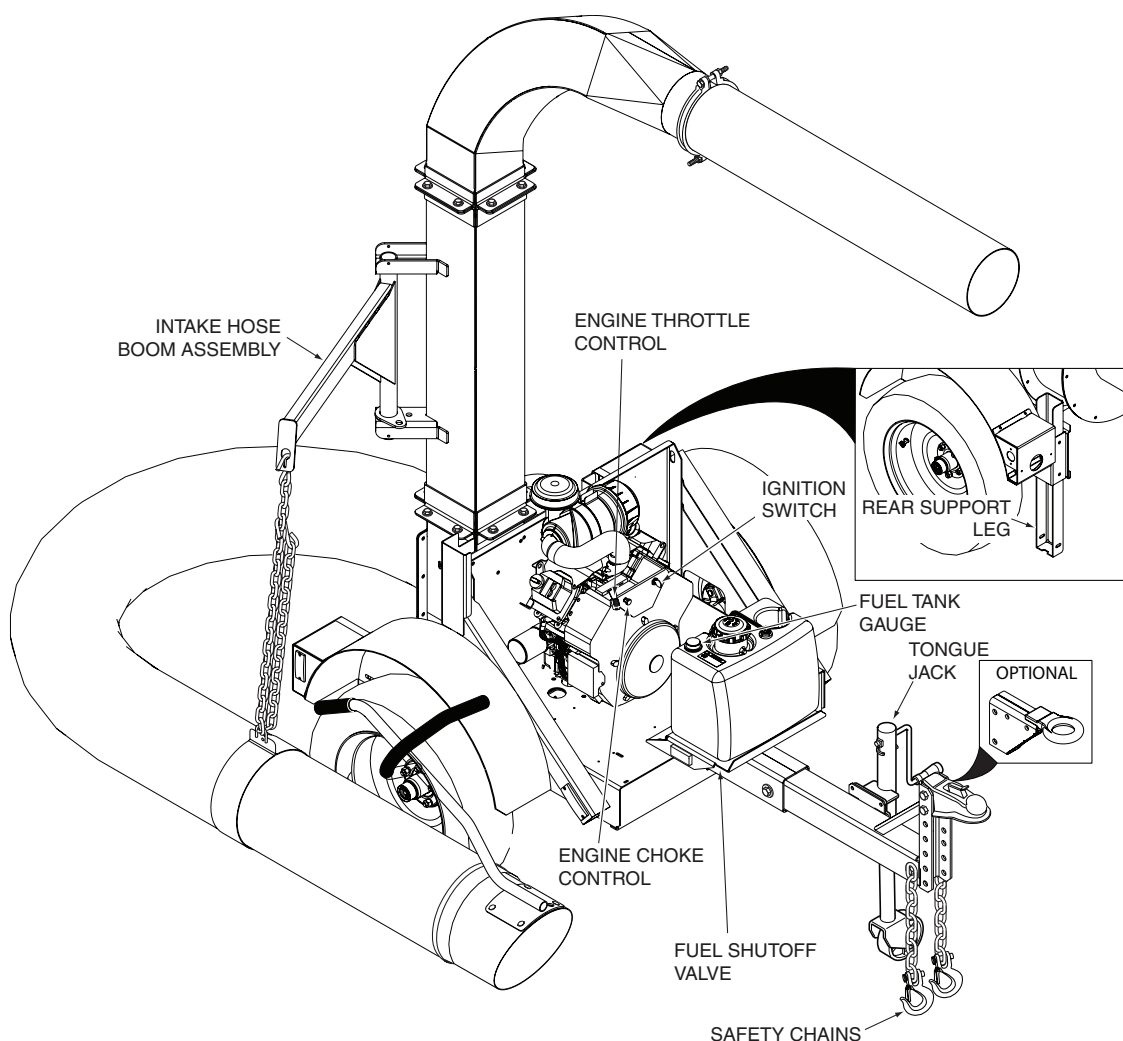

Figure 4-1. Controls and Instruments
1. **Ignition Switch (Figure 4-1).** The ignition switch is used to start the engine and has three positions; OFF, ON, and START.
2. **Engine Throttle Control (Figure 4-1).** Used to control the engine speed. Pushing the lever inboard increases engine speed. Pulling the lever outboard decreases engine speed. Full outboard position is the IDLE position. Full inboard is the operating position.
3. **Engine Choke Control (Figure 4-1).** Used to start a cold engine.
4. **Tongue Jack (Figure 4-1).** Used to raise and lower the ball hitch receiver or optional pintle hitch onto or off of the tow vehicle.
5. **Safety Chains (Figure 4-1).** Used to connect to the tow vehicles cradle draw bar in criss-cross fashion in case of an accidental disconnect.
6. **Rear Support Leg (Figure 4-1).** Used to support the truck loader when disconnected from the tow vehicle.
7. **Fuel Tank Gauge (Figure 4-1).** Indicates the amount of fuel in the fuel tank.
8. **Fuel Shutoff Valve (Figure 4-1).** Located under the fuel tank. Used to shut off fuel supply to the engine. Rotate the valve counter clockwise to supply fuel. Rotate the valve clockwise to shut off fuel supply.
9. **Intake Hose Boom Assembly (Figure 4-1).** Used to support the intake hose. The support chain can be raised or lowered until the intake nozzle floats 2-3 inches from the ground to help make operation easy and comfortable.
2. Be sure the fuel shutoff valve, located under the fuel tank, is completely open. See Figure 4-1.